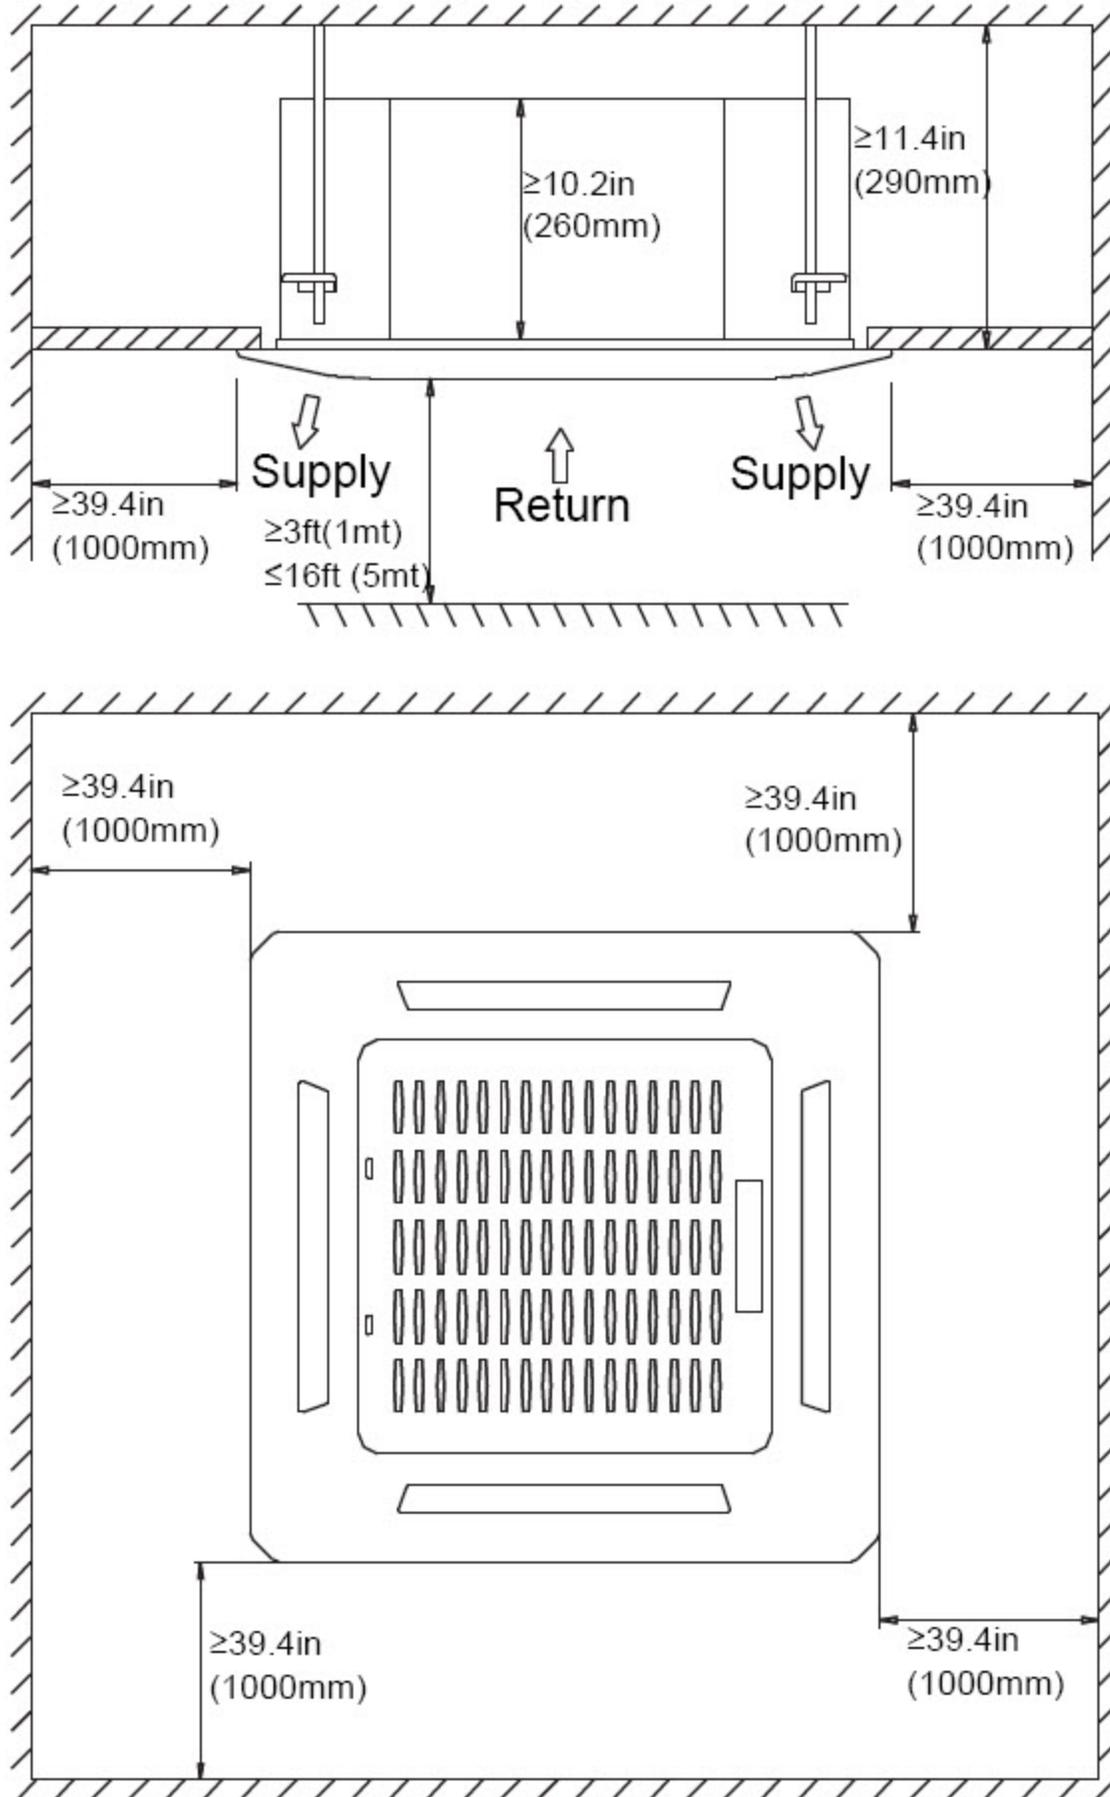

Fig. 3 - Cassette Unit Clearance
Allow sufficient space for airflow and unit servicing. See Fig. 3 for the minimum required distances between the unit and the walls or ceilings.
- A location which provides appropriate clearances (see Fig. 3).